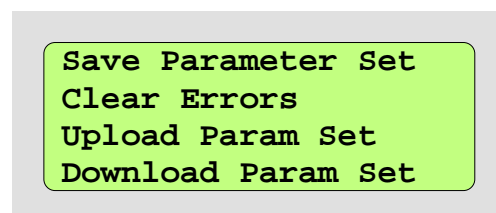

Figure 3: LCD in Function Selection Mode
- in Function Selection Mode; for this mode refer ↑ 4.4 Function Selection Menu, configuration of the display as in Figure 3.